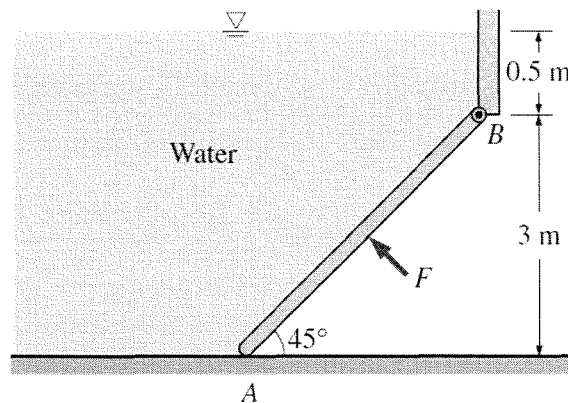

Figure Q1 (a)
- (a) The 200-kg, 5-m-wide rectangular gate shown in Figure Q1 (a) is hinged at B and leans against the floor at A making an angle of 45° with the horizontal. The gate is to be opened from its lower edge by applying a normal force at its center. Determine the minimum force F required to open the water gate.